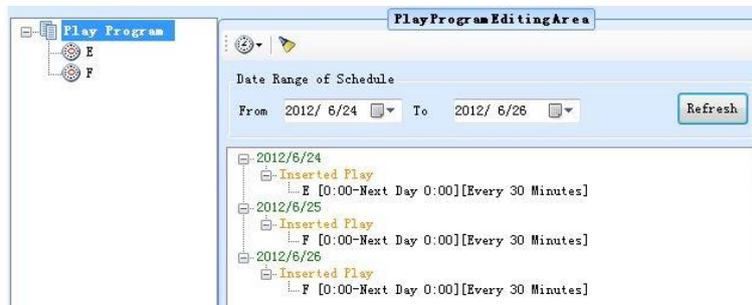

Fig. 10-15 F has higher priority than E
- Otherwise, if E is at the back of F in the play program, then E has the priority to be played on time conflict. The dispatching results will be shown as Fig. 10-15.